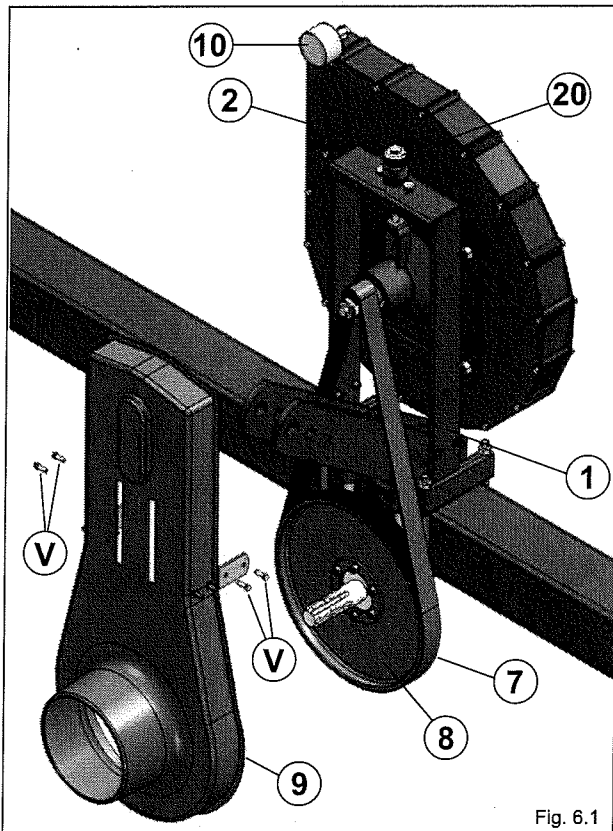

Fig. 6.1
The pneumatic vacuum pump (Fig.6.1) is used to create a vacuum inside the seed distributors. Such vacuum permits the distributor disc to load the seeds on the holes.
The vacuum pump (Fig.6.1) consists of a main frame 1 to which the following are fixed:
- A vacuum meter 10 (Fig.6.1) that allows to measure the vacuum in the suction chamber of the seed distributor.